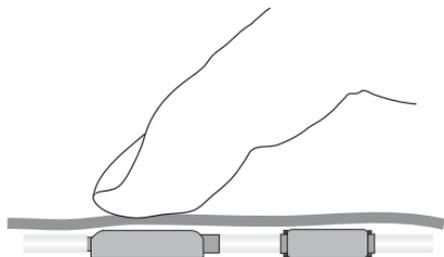

Fig. 13: Locating the valve
1. The valve is located under the skin (fig. 13).